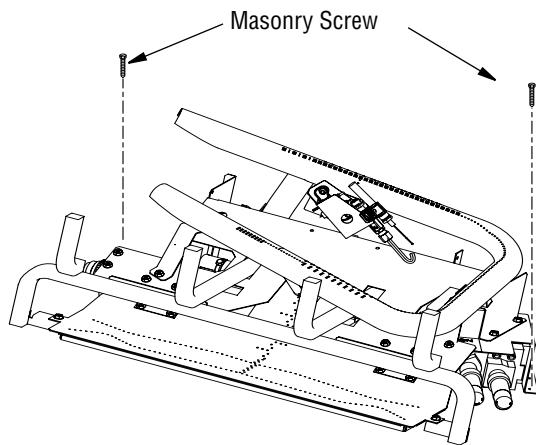

Figure 10 - Attaching Base to Fireplace Floor (Model Shown May Vary from Actual Model)
3. Mark screw locations through holes in front panel of base (see *Figure 10, Page 9*). If installing in a brick-bottom fireplace, mark screw locations in mortar joint of bricks.
6. Attach base, through holes in back side panels of base, to fireplace floor using masonry screws provided in hardware package (see *Figure 10, Page 9*).